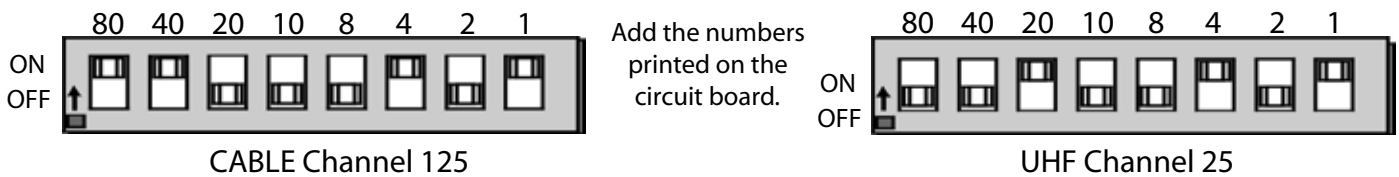

Figure 1 - Setting the modulated channel with the switches. Valid channels are UHF 14-69, CABLE 70-94, 100-125.
1. Remove the Housing Cap from the camera assembly and set the channel with the switches as shown in Figure 1. Choose an unused channel that matches the tuning mode of the televisions. With antenna tuning, choose a UHF channel from 14-69. With cable tuning, choose a CABLE channel from 70-94 or 100-125. There must be at least one blank channel on either side of the modulated channel to separate it from any other broadcast, cable, or modulated source. When combining with cable service, be aware that digital data typically interferes with channels 80-117, even when not subscribed to digital services. Channels 120-125 often work without any filtering.